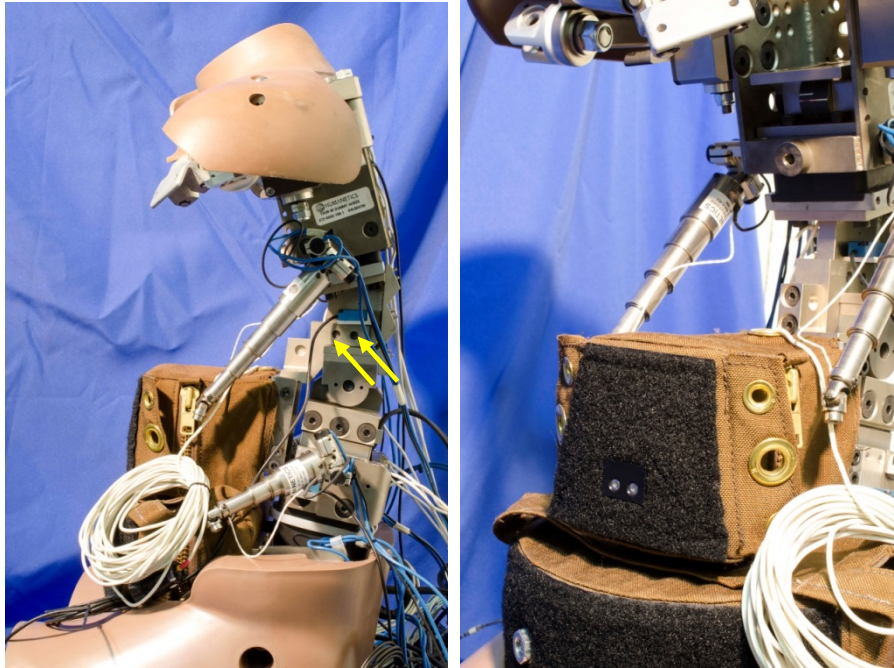

Figure 8-17. Upper abdomen installed to spine
- 8.2.3.2 Align the holes and fasten the spinal mounting bracket to the lower thoracic spine weldment using two M8 X 1.25 X 25 FHCS into the two mounting holes in the spinal mounting bracket arms from the right side (Figure 8-17). The T6 tilt sensor mount may need to be loosened to install the upper abdomen.